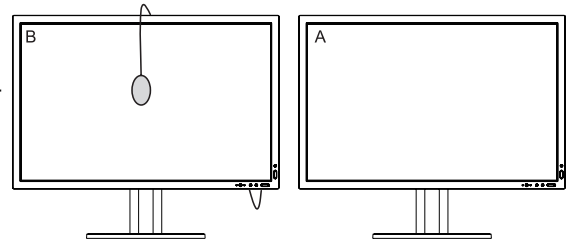

Figure C.2
11. Remove USB sensor from source Display A and place in the center of Display B (**Figure C.2**).